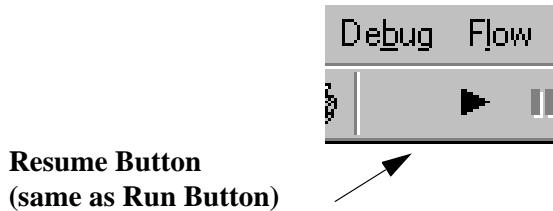

Figure 2-24. Resume Program (same as the Run Button)
3. Resume the program to continue and pause at the next object with a breakpoint set. Click the **Resume** button on the tool bar, shown in Figure 2-24. (Also in the Debug menu.)